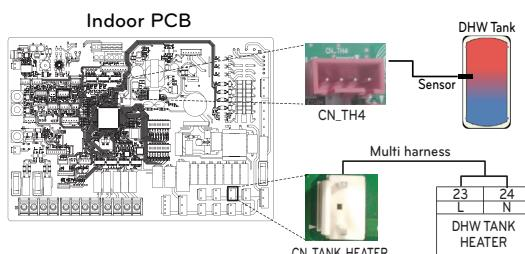

Fig. 1
**Step 5.** Connect power supply to the DHW tank kit as shown fig. 1.